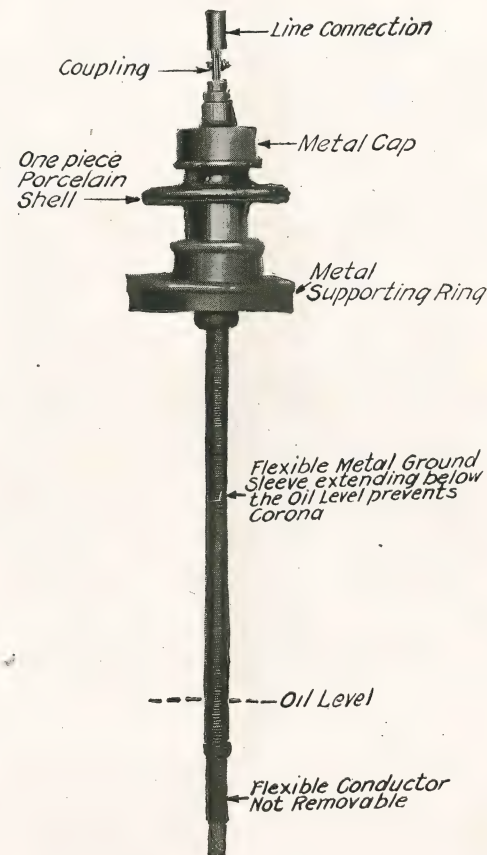

Fig. 21. SOLID CABLE CONDUCTOR TYPE BUSHING
(3) FLEXIBLE CABLE CONDUCTOR bushings are supplied for voltages of 7500 and below and like the rigid conductor bushings cannot be removed without disconnecting the lower terminal from the winding on the under side of the cover. See Fig. 21.